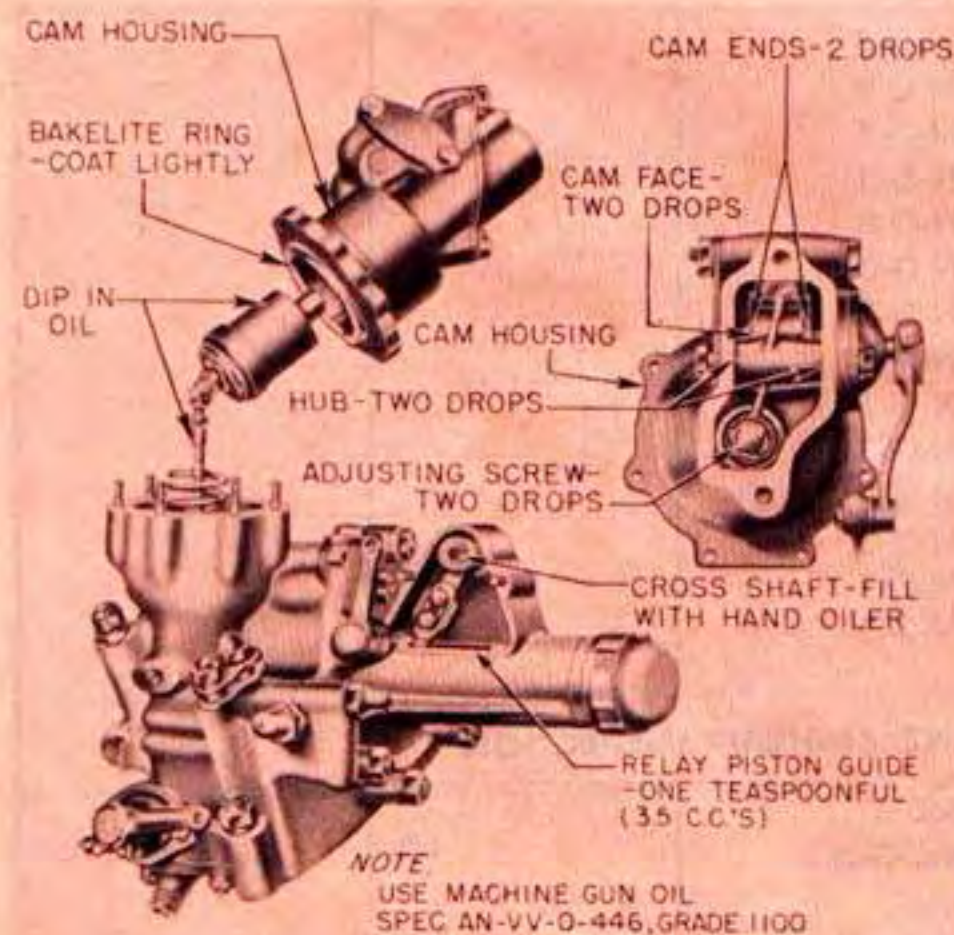

Figure 75—Manifold Pressure Regulator Lubrication
(7) COOLANT PUMP.—Lubricate coolant pump with high melting point grease, Specification No. AN-G-5 (AAF3560), every 25-hour inspection.
(8) MANIFOLD PRESSURE REGULATOR. (See figure 75.)—Lubricate the manifold pressure regulator with engine oil, Specification No. AN-VV-O-446, Grade 1100, at the following points every 50-hour inspection: